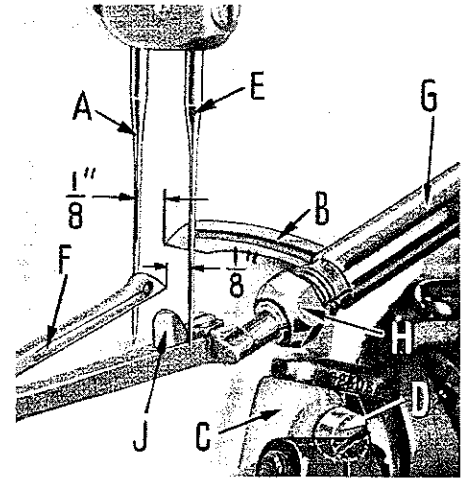
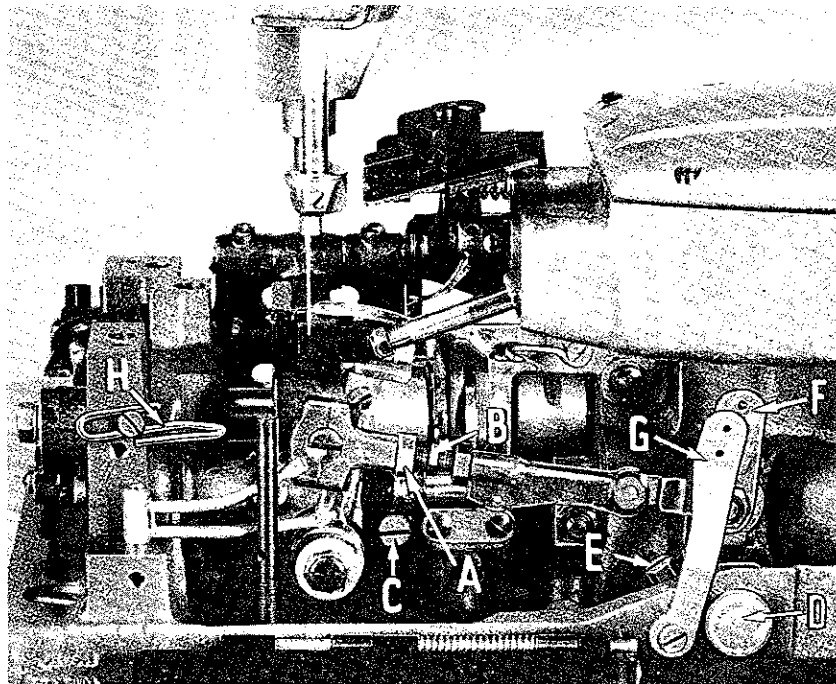

Fig. 3
Fig. 4
Insert the rear needle (A, Fig. 3), Type 108 GS, size as specified and insert the 401 stitch looper (B) in the looper rocker (C), and tighten screw (D). Rotate hand-wheel in operating direction until back looper is in the extreme right position. The looper should be set so that its point is  $1/8$  inch from the center of the back needle, as in Fig. 3. Looper gauge No. 21225- $1/8$  can be used advantageously in making this adjustment. If adjustment is needed, loosen nut (A, Fig. 4) (it has a left hand thread) and also loosen nut on right end of connecting rod (B), turn connecting rod forward or backward to obtain  $1/8$  inch, and retighten both nuts.
Insert the front needle (E, Fig. 3) and also insert the 503 stitch looper (F) in the lower looper bar (G), and tighten nut (H). Rotate handwheel in operating direction until front looper is in the extreme left position. The looper should be set so that its point is  $\frac{1}{8}$  inch from the center of the front needle, as in Fig. 3. Looper gauge No. 21225- $\frac{1}{8}$  can be used advantageously in making this adjustment. If adjustment is needed, loosen nut (H) and slide looper in or out of its holder and retighten nut.
With the back looper (B, Fig. 3) in the looper rocker (C), turn the handwheel in the operating direction until the looper moves to the left and its point is even with left side of the needle (A). Note the height of the eye of the needle with respect to the looper point, then turn the handwheel in the reverse direction until the looper point again moves to the left and is even with the left side of the needle.
If the motions are synchronized, the height of the eye of the needle with respect to the looper point will be the same. A variation of .005 inch is allowable. If the distance from the eye of the needle to the point of the looper is longest when the pulley is turned in operating direction, move the looper drive lever shaft synchronizing stud (D, Fig. 4) to the rear. Moving it in opposite direction acts the reverse.
Moving of the looper drive lever shaft synchronizing stud is accomplished as follows: Loosen clamp screw (E, Fig. 4) of looper drive lever.
The 503 looper thread take-up (F, Fig. 4) should be positioned approximately on the center line of the looper drive lever as per Fig. 4. Eyelets (G, and H, Fig. 4) are positioned correctly when the lower looper thread is taut as the spreader reaches the left end of its travel.
To control the ratio of thread pulled during the leftward movement, use the thread take-up eyelet (G, Fig. 4).
Moving this eyelet to the left causes more looper thread to be drawn on the left hand stroke of the spreader, and moving it to the right causes less looper thread to be drawn. Moving this eyelet to the right or left also affects the drawing of the looper thread at the extreme left position. To readjust for this condition, move the eyelet (H, Fig. 4) to the right to reduce the thread drawn or to the left to reduce the amount of slack. The two eyelets (F and G) are to be adjusted in conjunction with each other so that the following conditions are met: (1)  $\frac{1}{3}$  of the looper thread is drawn during the left stroke of spreader, and (2) No looper thread is drawn at the extreme end of stroke.